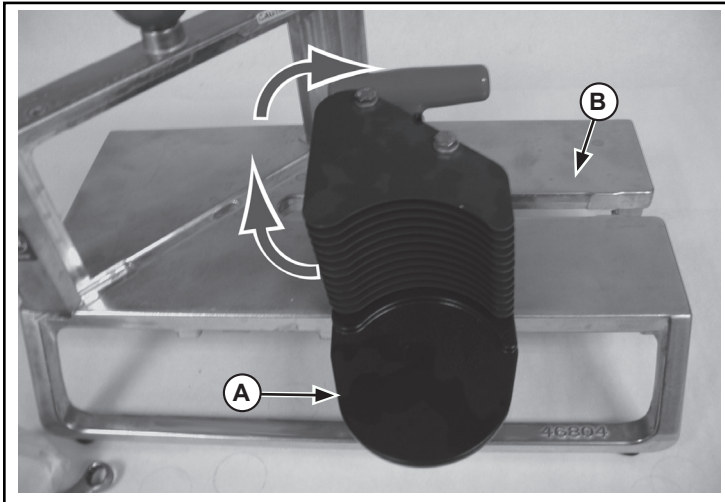

Figure 4. Installation of Pusher Head
9. Slide the new pusher head (A) handle first into the slot (B) and rotate until it is in the operating direction. See Figure 4.